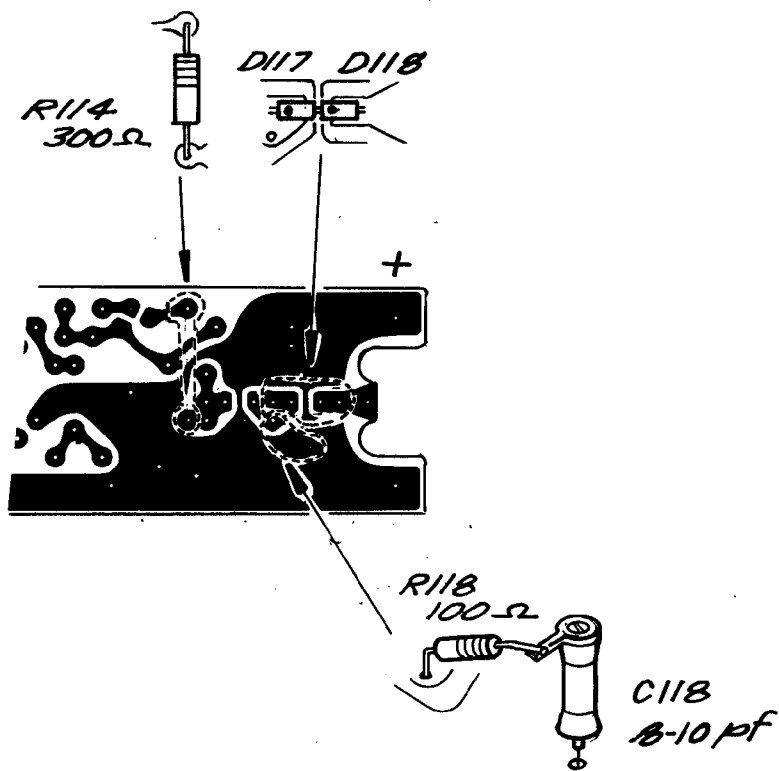

FIG. 1
TO REPLACE D117-D118 ON THE + FAST RISE OUTPUT BOARD. SEE FIG. 1.
- ( ) 7.⊕ Install D117-D118, two clip mounted silicon diodes. Install with cathodes (dots) as shown in Fig. 1.